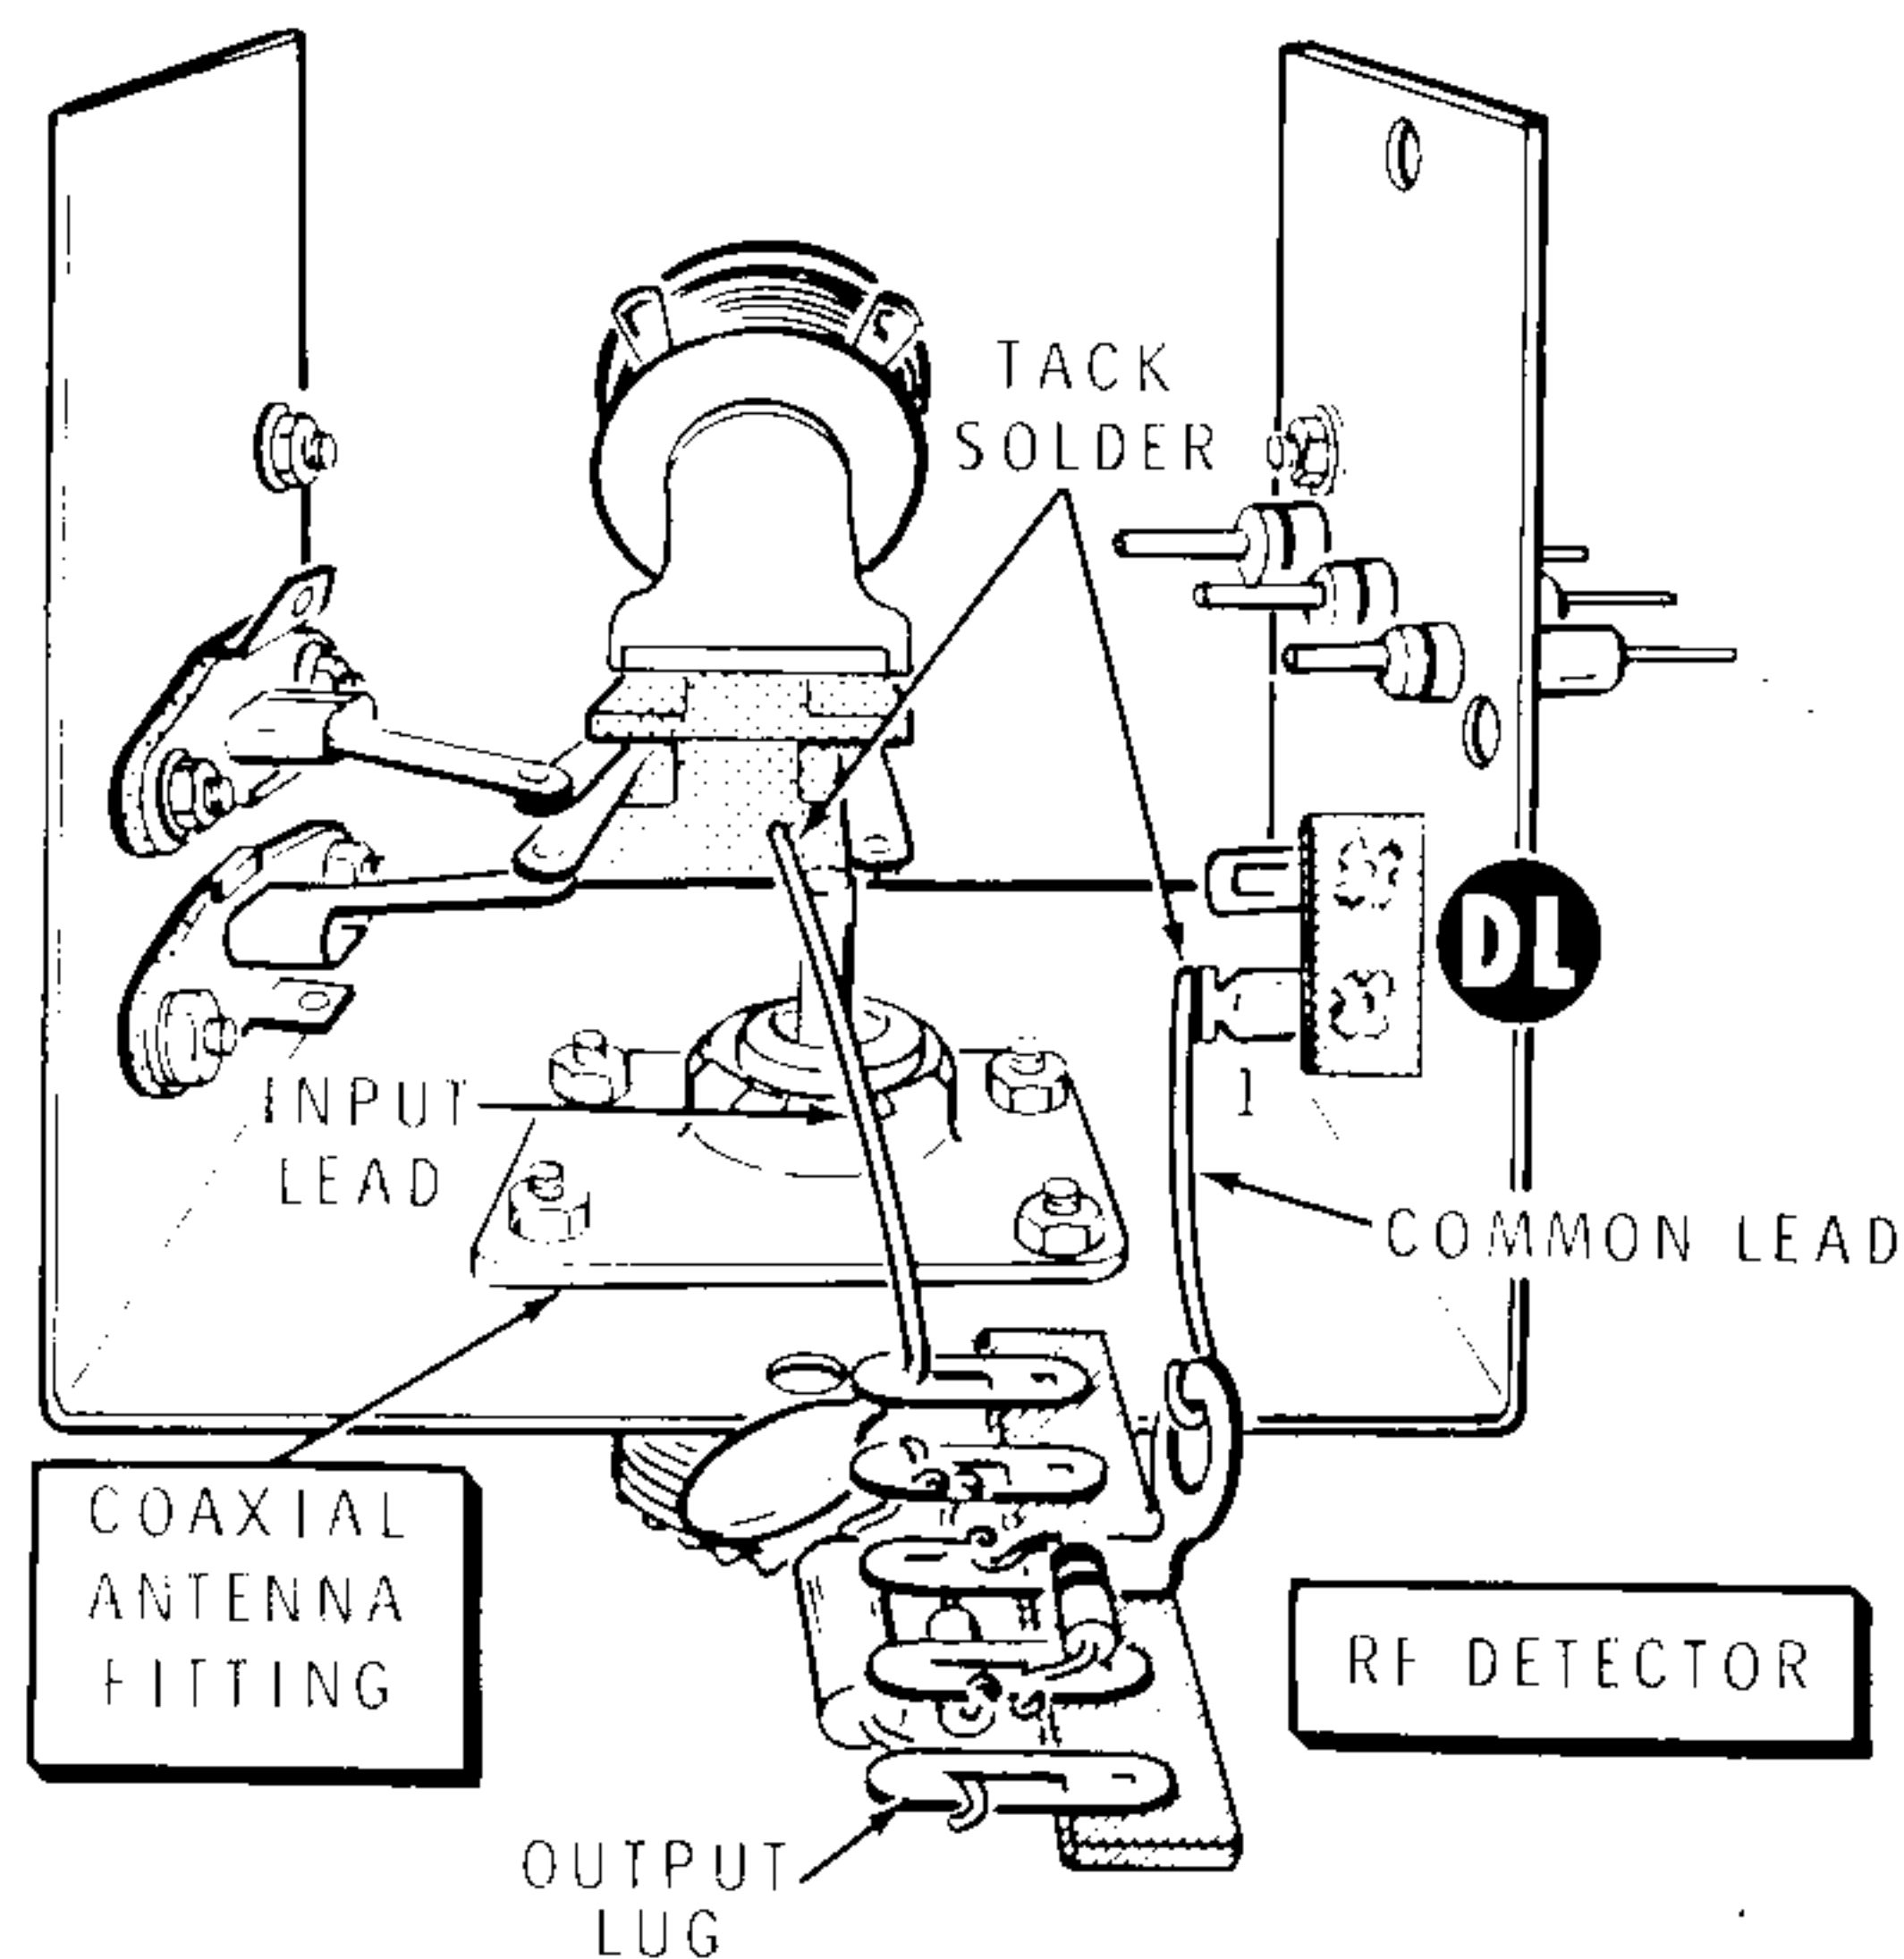

Figure 8-3
- ( ) Refer to Figure 8-3 and tack solder the input lead of the RF detector to the center conductor pin of the coaxial antenna fitting. Tack solder the common lead to pin 1 of 2-lug terminal strip DL.